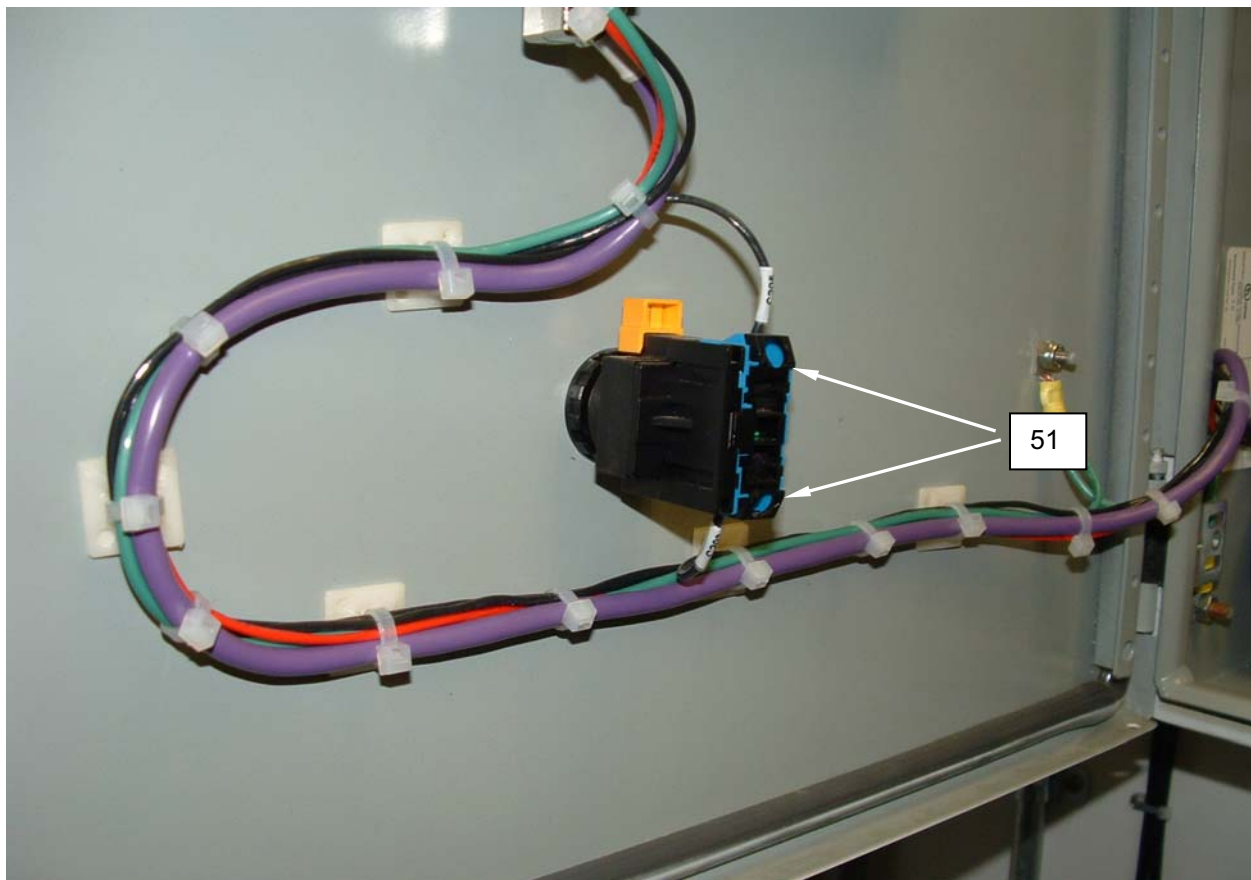

Figure 25. Test the Emergency Stop.
2. Tag and disconnect wiring from the two switch terminals (**Figure 25, Item 51**).
3. Use an ohmmeter to test for continuity across the two switch terminals (**Figure 25, Item 51**).
4. Connect wiring to the two switch terminals (**Figure 25, Item 51**) as tagged.